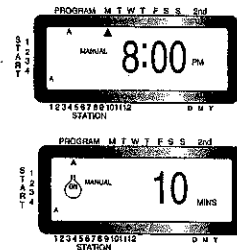

Figure 12: Manual Watering in Either the A or B Program Only
- ◆ To activate each stations assigned watering durations for the A program *only*, press the MANUAL key, followed by the NEXT key. This will activate stations with assigned watering durations in the A program only. To initiate this semi-automatic watering, press ENTER [See Figure 12].